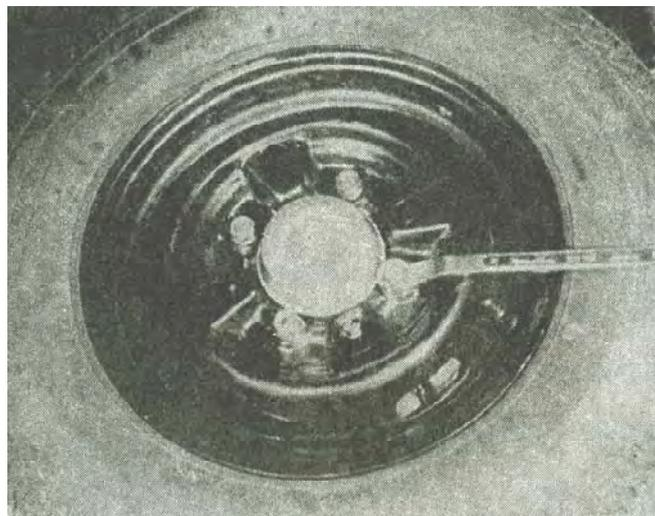

FIG.16-12
- (1) Loosen front wheel nut, but not remove wheel, jack up the vehicle with a jack.
- (2) Remove wheel after jacking the vehicle safely, then take down the wheel.(FIG.16-12)